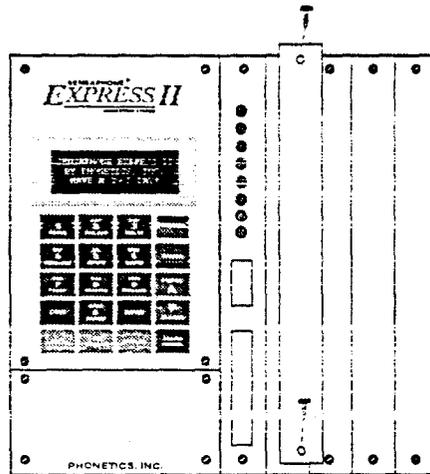

Figure 9: Remove blank plate
2. Remove the screws and blank plate of the first available slot from left to right. See Figure 9 below. **NOTE:** Always install cards side by side—do not skip a slot.